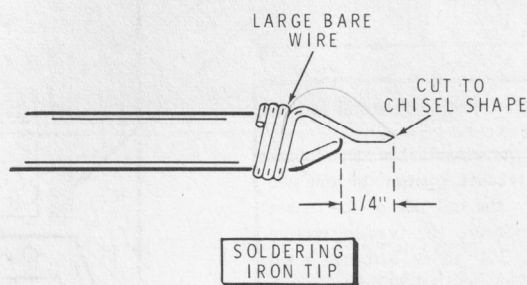

Figure 1
- If a small wattage, small-tip soldering iron is not available, proceed as follows: Be sure your soldering iron is cool. Wrap the large bare wire (supplied) tightly around the soldering iron tip as shown in Figure 1. Allow approximately 1/4" of wire to extend beyond the end of the soldering iron. Cut the wire end to a chisel shape as shown. Occasionally apply solder to the turns of large bare wire to achieve a good heat transfer.